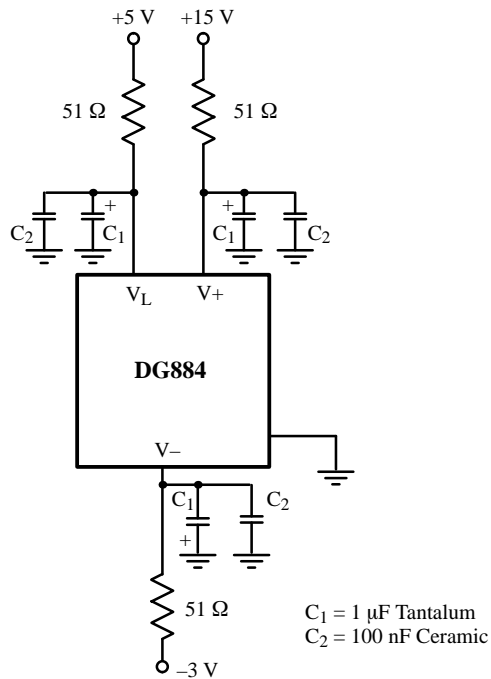

Figure 14. DG884 Power Supply Decoupling
- 4) Additional high frequency protection may be provided by 51- Ω carbon film resistors connected in series with the power supply pins (see Figure 14).